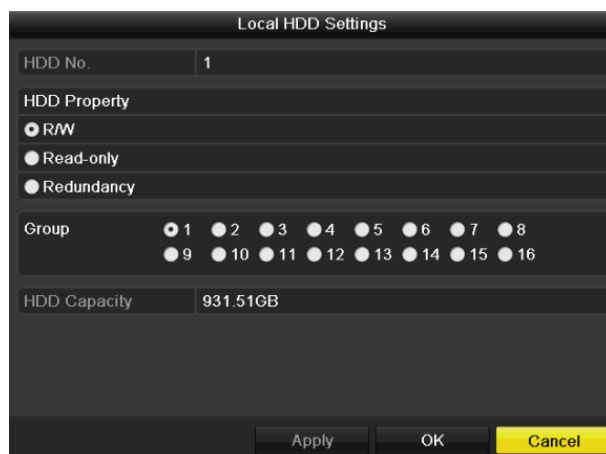

Figure 12.15 Set HDD Property
2. Select HDD from the list and click the  icon to enter the **Local HDD Settings** interface, as shown in Figure 12.15.